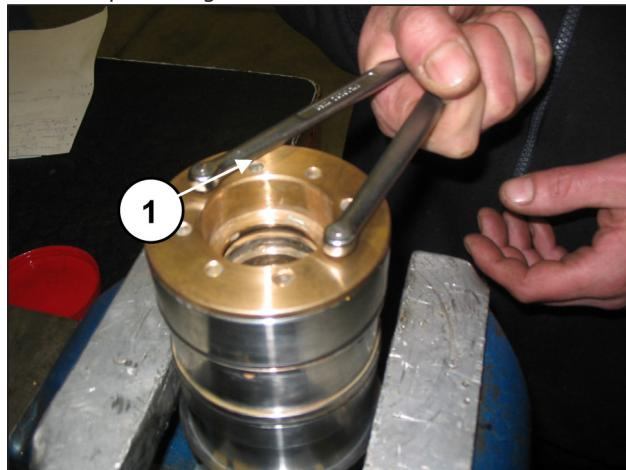

Fig. 169
Separate the seal support from the liner by using a compass spanner with Ø5 round ends, available on the market (pos. ①, Fig. 169) and unscrew the support until it is completely removed (pos. ②, Fig. 170).